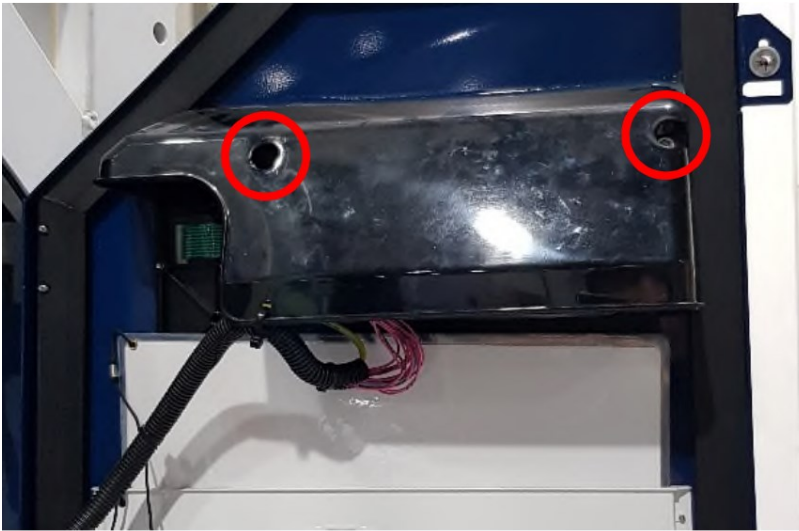

Figure 2a: Removal of Rain Shield
4. Remove the rain shield by removing the screws using a flat head screwdriver. Temporarily reinstall the two screws to hold display in place for the next step. See Figure 2a and 2b.